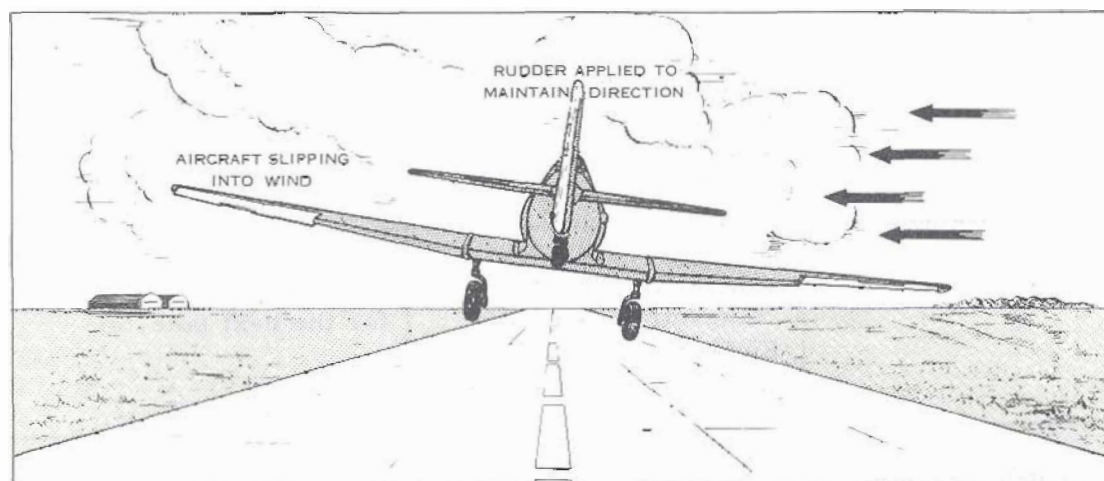

Figure 1: Correcting for Crosswind
(1) Since many of your landings will be made in cross-winds at various angles and speeds, you should be thoroughly familiar with cross-wind landing techniques. Two types of approaches are used:
(2) **THE WING-DOWN METHOD** - If you find that there is a cross-wind as you are coming in on the approach, lower the wing which is into wind a sufficient amount to eliminate drift. (Figure 1) Apply whatever rudder pressure is necessary to keep the longitudinal axis aligned with the runway, and hold this alignment regardless of the amount of cross-wind correction used. If the aircraft drifts off the desired glide path, make the correction to realign it with the runway and alter the degree of bank to compensate for the extra wind strength. Remember that the strength of the wind may vary at different heights throughout the glide path, so the angle of bank must be adjusted accordingly. Also, during the round-out and float period, the airspeed is decreasing, and, since the wind tends to make the aircraft drift away from the centre line, you must apply a correction which has to be gradually increased to keep the aircraft properly aligned with the runway. Keep the into-wind